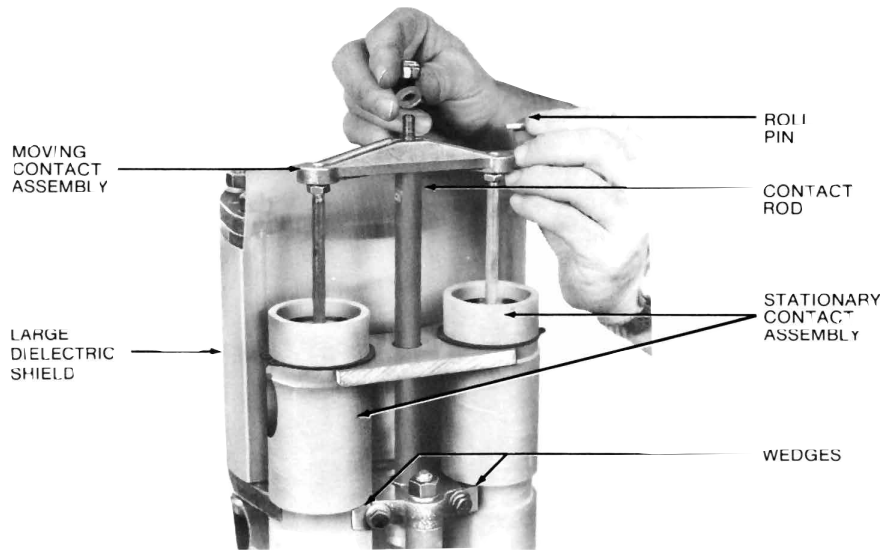

Figure 7. Removing contact yoke assembly
1. Remove self-locking nut and washer from end of contact rod (Figure 7). Then drive out the roll pin that aligns the moving contact yoke. Lift off the moving contacts.